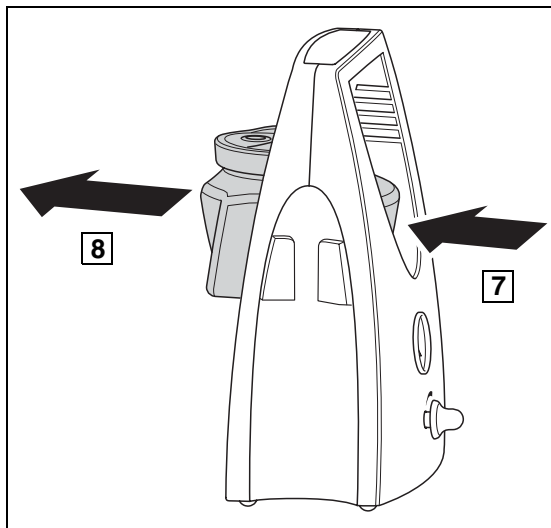

Fig. 33: Removing the septic fluid jar.
- ☒ Detach the extraction catheter and fingertip from the suction tube (► Fig. 33) and dispose of properly.